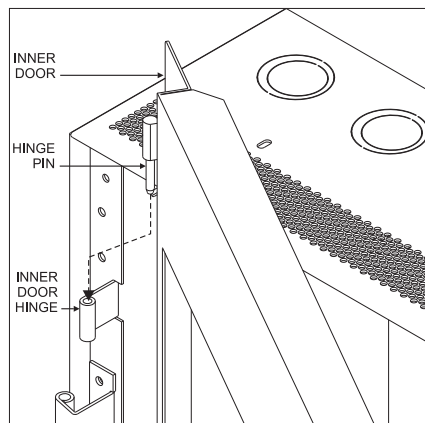

Figure 6
1. Insert the hinge pins on the inner door in the hinges on the backbox. (Refer to Figure 6.)